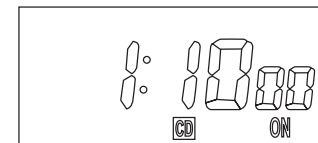

Figure 5
7. Press the SET key to complete the setting of the Countdown Timer. The display will be shown as in Figure 5.